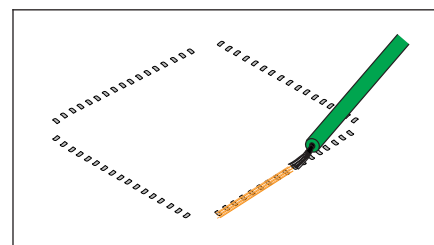

Figure 1 Apply Flux
4. Apply flux to lead/land areas. (See Figure 1.)